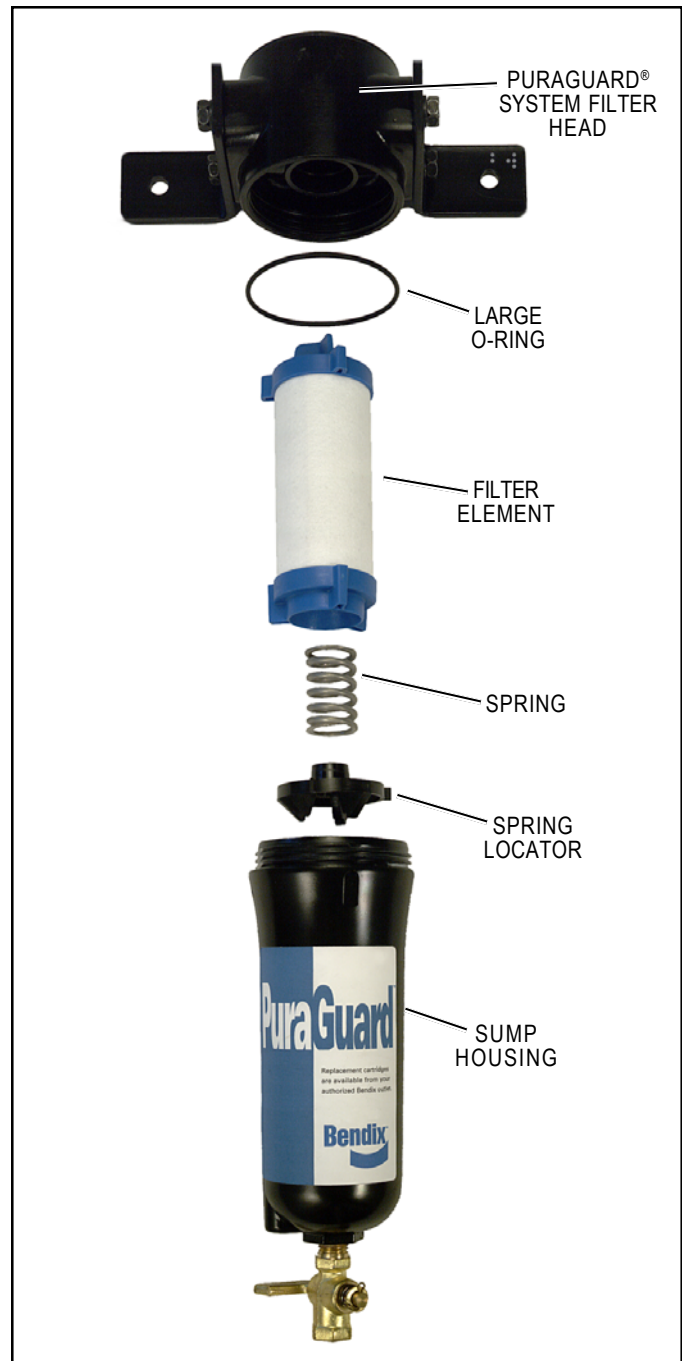

FIGURE 11 - MAINTENANCE KIT COMPONENTS
DISASSEMBLY AND CLEANING (see Figure 11)
ASSEMBLY (see Figure 11)
- If only installing the maintenance kit, go to item 4 below.
3. Using long-nose pliers, install the spring locator and spring assembly into the sump (see Figure 11).